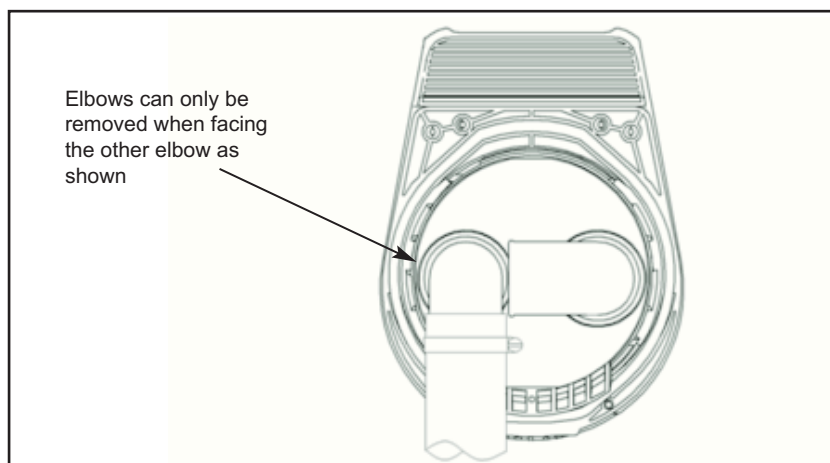

Fig.8 Disconnection Position of Elbows
3. The elbows can be removed and hoses attached prior to installation by turning the elbows to a point where the outlet/inlet elbow directly faces the other elbow and then pulling out. See fig. 8 (below).